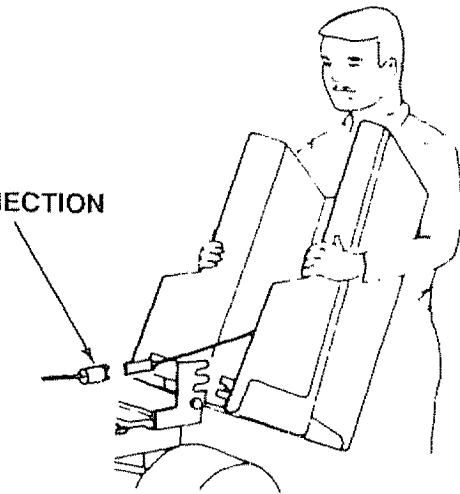

FIGURE 32
- a. Remove hood (Fig. 32).
- a. Lift hood. Disconnect headlight wiring connection (Fig. 32).
- c. Pivot hood and side panel forward and lift off tractor (Fig. 32).